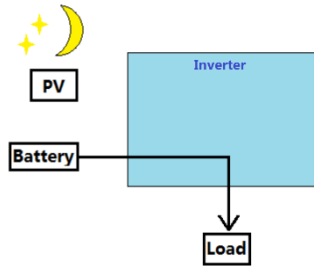

Figure1-11
3. When PV is insufficient, Batteries supply power to the load.( Figure1-11)